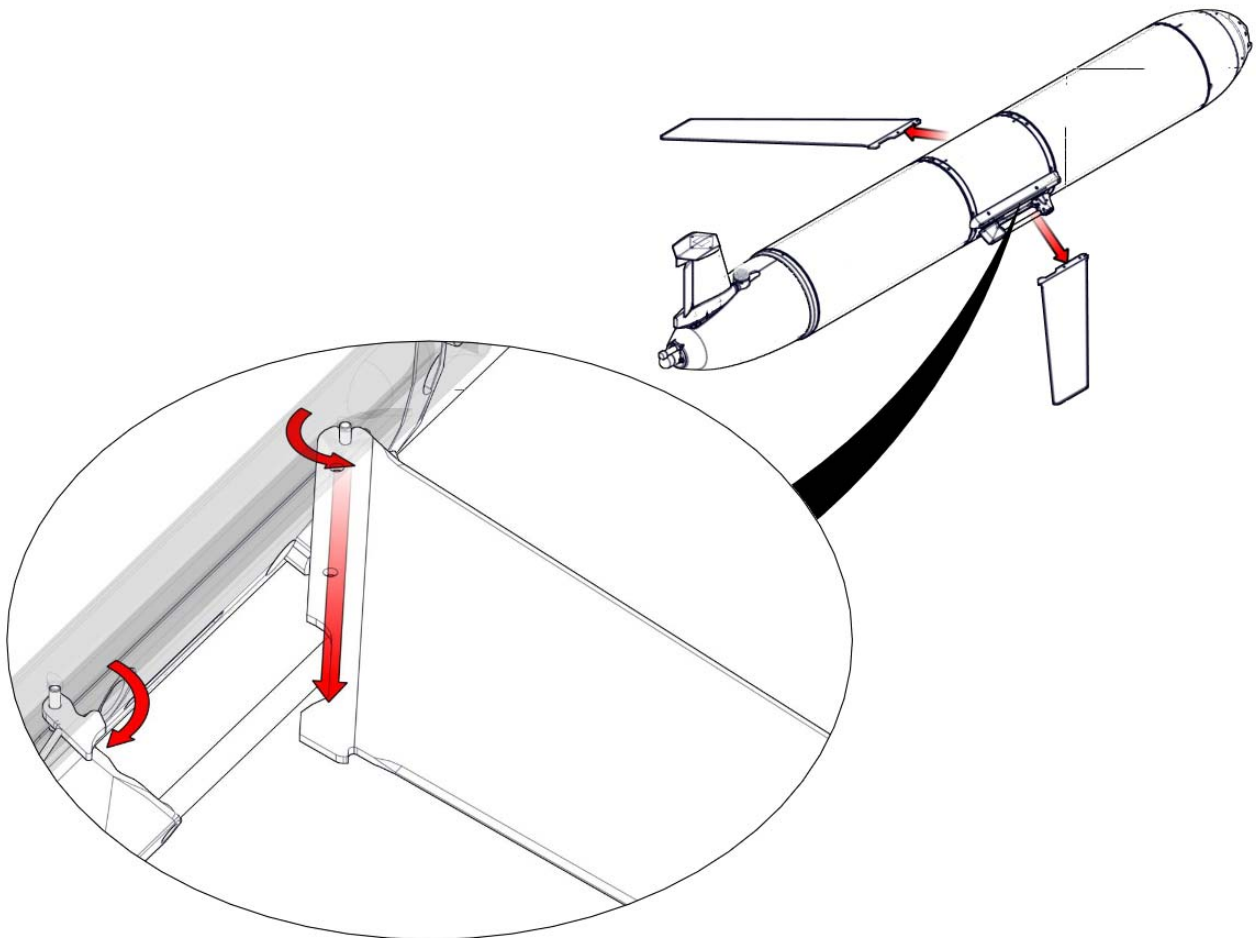

Figure 2-22 Wings.
2. The wings are removed easily from the snap-in wing support by using a quick release click-in, click-out system (Figure 2-22).
The wings are installed easily to the snap-in wing support by using a quick release click-in, click-out system (Figure 2-22).